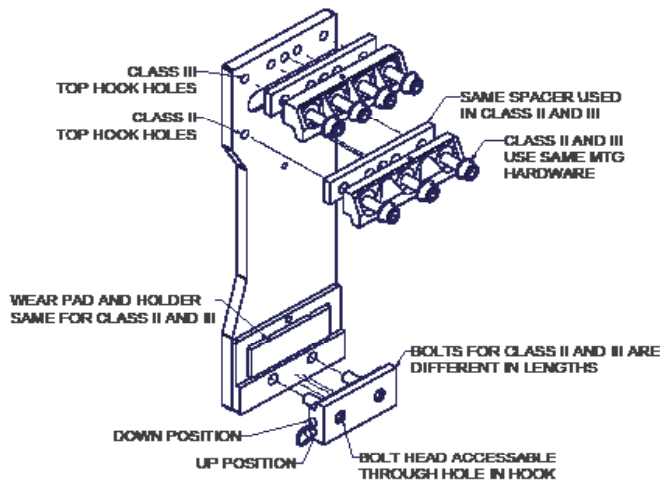

Figure 4-4, Quick Change Pin-Style Hook
2. Select the correct class Quick Hook Assembly for your application and install assembled as shown in Figure 4-4. Note that the hook assemblies for Class II and Class III have different length bolts. Slide lower hook against carriage, install mounting bolts and insert detent pin into the lower hole (up position).